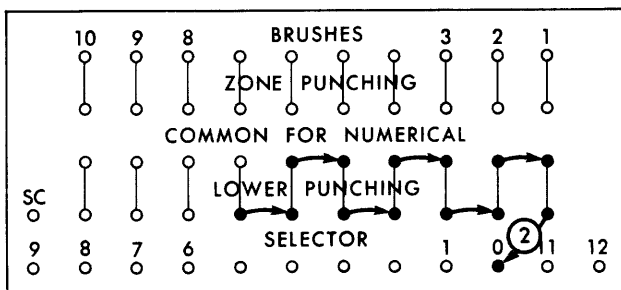

Figure 38. Zero Elimination (82)
*Zero Elimination During Numerical Sorting:* Wire the panel as shown in Figure 38 to reject cards requiring no further sorting after the column being sorted.
2. Wire the lower-punching hubs together and to the zero selector hub (Figure 38).
*Accelerated Alphabetic Sorting:* Zero elimination (Figure 38) can accelerate alphabetic sorting by rejecting cards with short names that do not have to be sorted on every column of the alphabetic field. In the example in Figure 39 all cards punched in 5